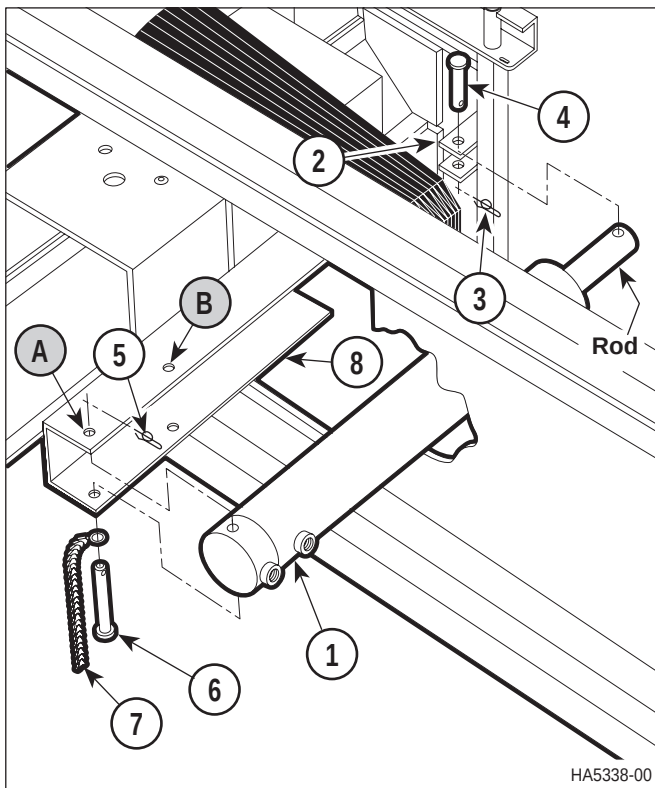

Figure 4-15. Elevation Cylinder Removal / Installation
- (8) Loosen jam nut (6) and then remove fitting (4), nylon ball (7) and restrictor seat (8) from elevation cylinder (1).
- (9) Disconnect rod of elevation cylinder (1, Figure 4-15) from litter top (2) by removing rue ring (3) and clevis pin (4).
- (10) Remove rue ring (5), clevis pin (6), ground
- (1) Install ground chain assembly (7, Figure 4-15) on clevis pin (6).